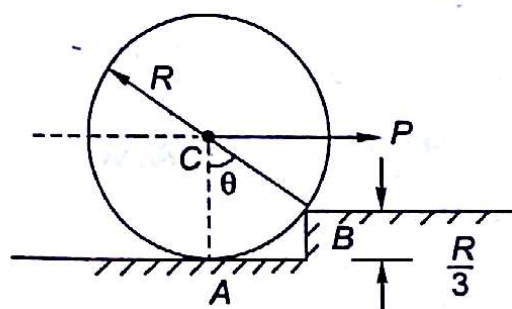

Fig. 3.48
3.2 A uniform wheel of radius R weighing W Newton rests against a rectangular edge $R/3$ high as shown in Fig. 3.48. Find the magnitude of the force P required to just turn the wheel about the edge B .